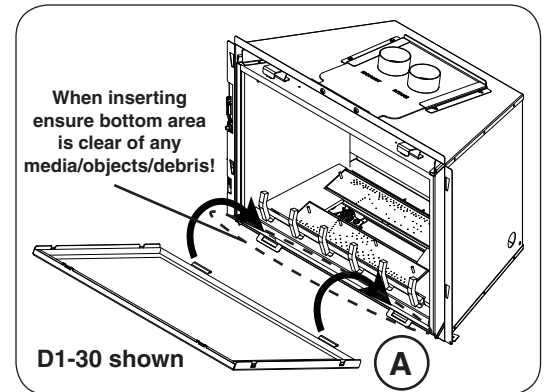

Fig. 37-1 Insert glass panel bottom
Important: When installing the glass panel, ensure that no media, objects, or debris exist along the bottom of the unit that may obstruct/damage the glass panel. See Fig. 37-1.
1. The bottom of the glass panel has two tabs. Insert the tabs into the two slots found on the bottom of the unit. See Fig. 37-1, "A".